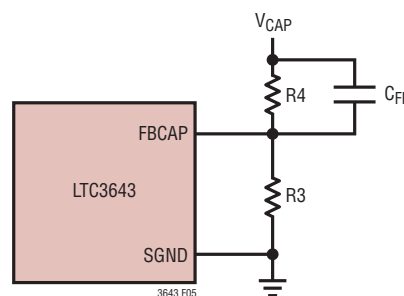

Figure 5. Setting The VCAP Voltage In Step-Up Mode
**FBCAP (Pin 9):** Feedback Input to the Error Amplifier of the Cap Voltage Regulation Loop. Connect a resistor divider tap to this pin. The CAP voltage can be adjusted such that VCAP = 0.6V (1+R4/R3) (See Figure 5).